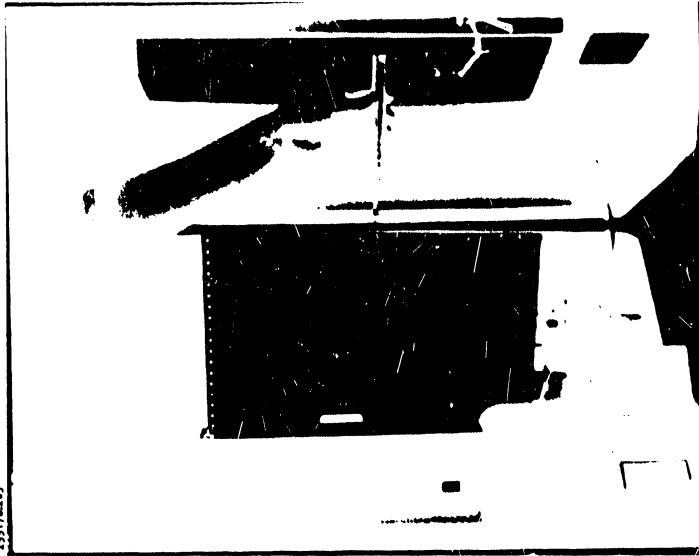

Figure 3-52. Paper Clamp Armature and Solenoid Assembly Tension Test
6. Install the paper form in the paper throat. Close the paper entrance cover and the hammer bank (see figure 3-52).